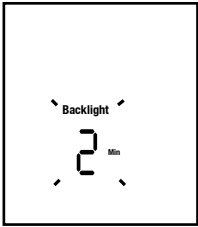

Figure 12
5. After accepting the temperature unit setting, the backlight icon flashes – the backlight can be set to be on continuously (in which case "On" is displayed and flashing) or on for two minutes after the last button was pushed (in which case "2" and "Min" are displayed and flashing). See Figure 12. The backlight is preset at factory to be on for 2 minutes. Press the Up or Down button to select the "On" or "2". Press the Save button once to accept the Backlight Time and exit to save the setting.